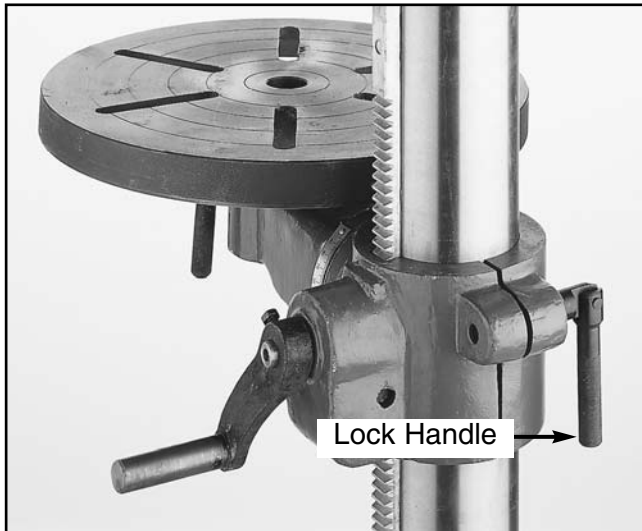

Figure 15.
1. To adjust the table up or down, loosen the column lock handle and turn the crank handle to the desired height. Tighten the column lock handle. **Figure 15.**